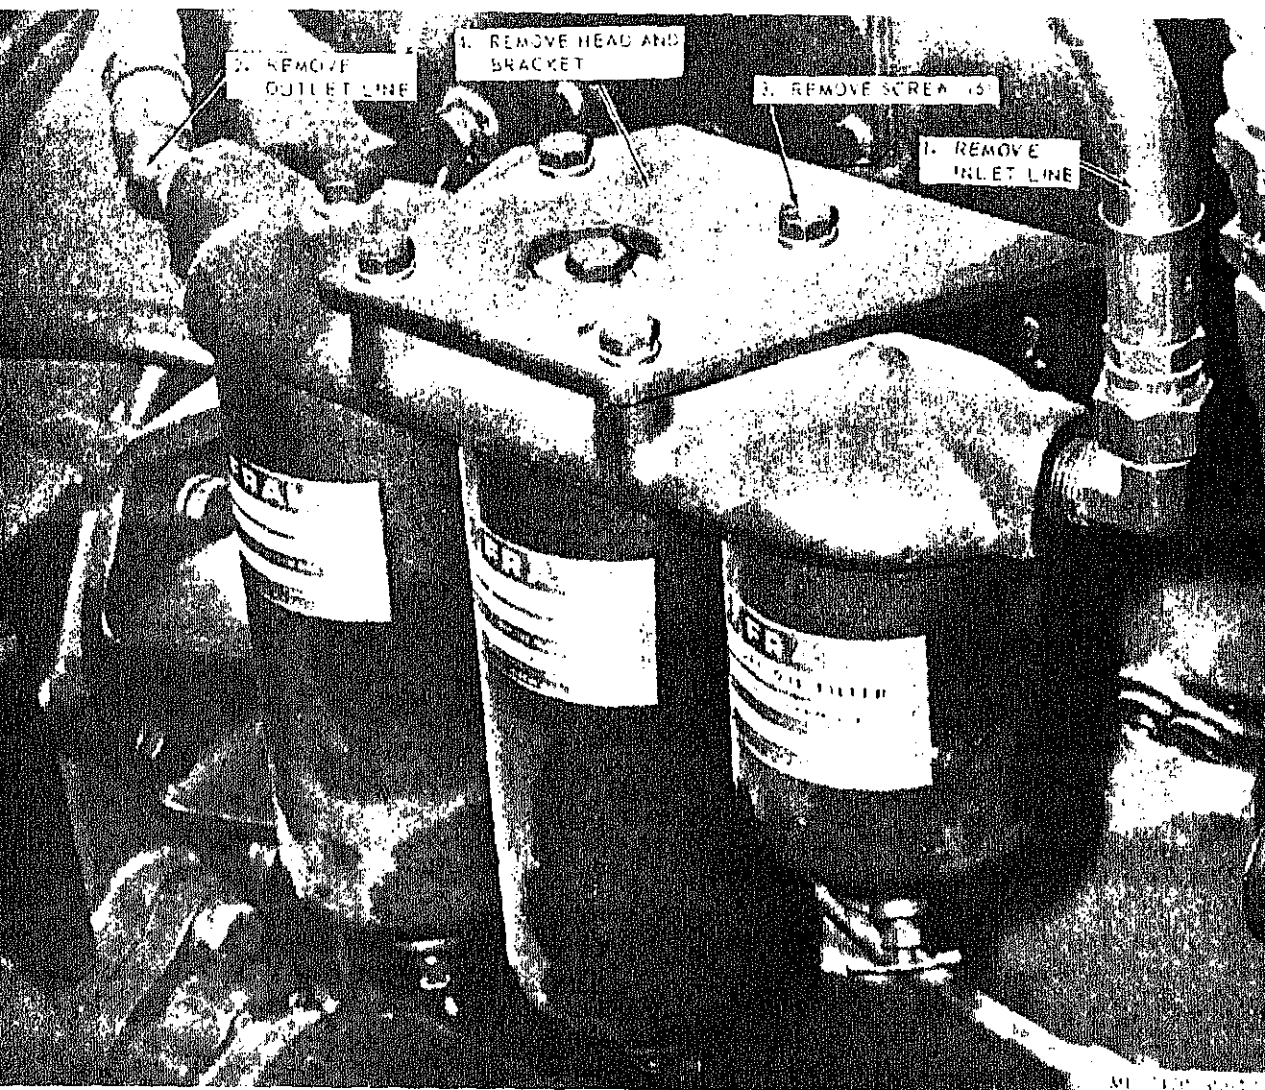

Figure 4-26. Fuel filter head, removal and installation.
- (1) Remove elements (para 3-6).
- (2) Remove filter head as illustrated in figure 4-26.
(1) Install filter heads as illustrated in figure 4-26.
(2) Install elements (para 3-5).